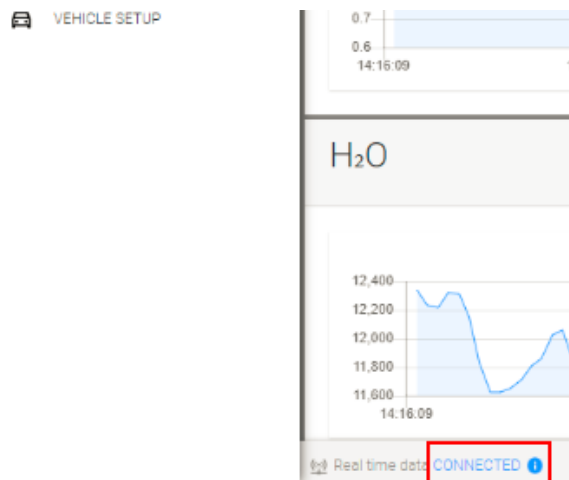

Figure 85 Connected Icon
- 6 After warm-up, check that the data stream is being read correctly: Check for a blue **CONNECTED** icon in the lower left part of the UI (see Figure 85).